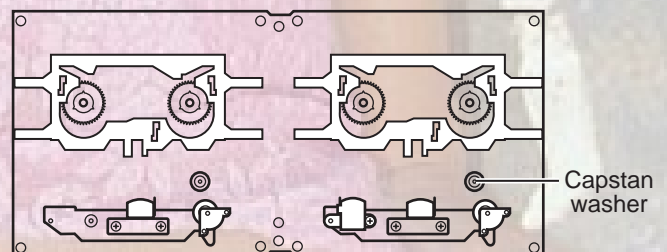

Fig.7
**Removing the flywheel (See Fig. 7 and 9)**